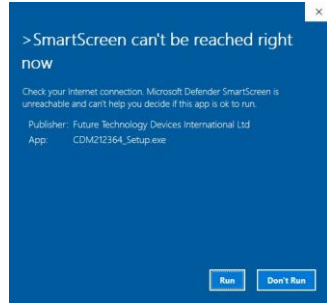

Figure 4-3: Message Screen
Step 3: A message screen appears (**Figure 4-3**). To continue the installation process click Run.